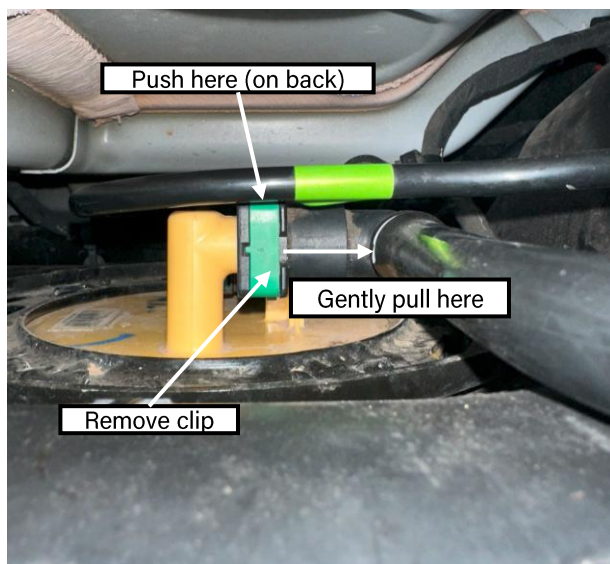

Figure 9: Evap canister hose clip
- ❑ Remove the evap canister hose by removing the green plastic clip, pressing in on the back of the spring clip, and gently pulling the line out (same as rear fuel connection clips) as seen in Figure 9